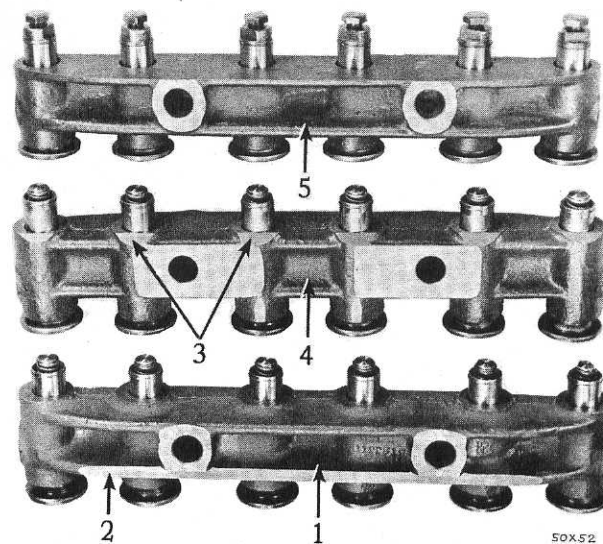

Fig. 60—Valve Tappet Guide Assemblies
45. REMOVAL OF HYDRAULIC VALVE TAPPET AND GUIDE ASSEMBLIES (FIG. 60)
Absolute cleanliness is essential in handling any part of the hydraulic valve tappet assembly (Fig. 60). The tappet consists of the following parts: